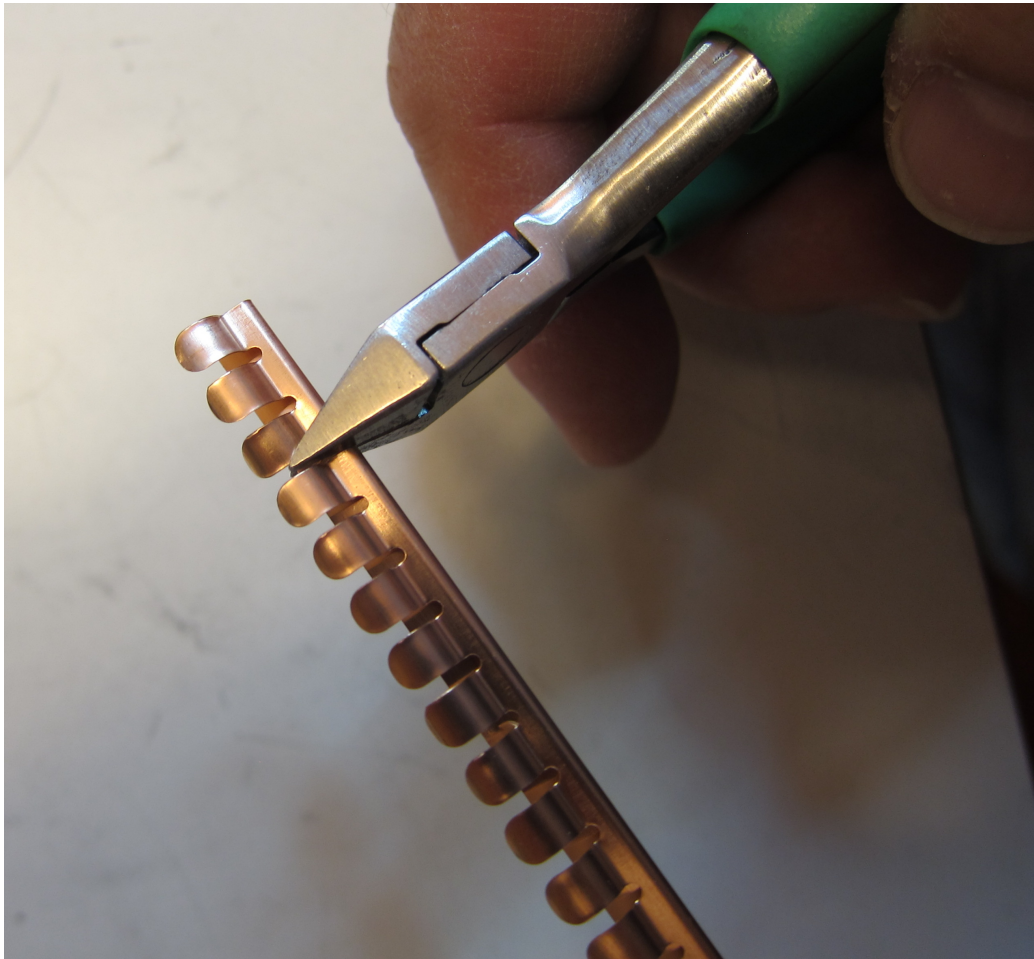

Figure 48: Cutting off 3 RF fingers from the end of 10-30C-050-DL-BD-16 gasket.
1. Trim 3 RF fingers off the RF gasket 10-30C-050-DL-BD-16 as shown in Figure 48.